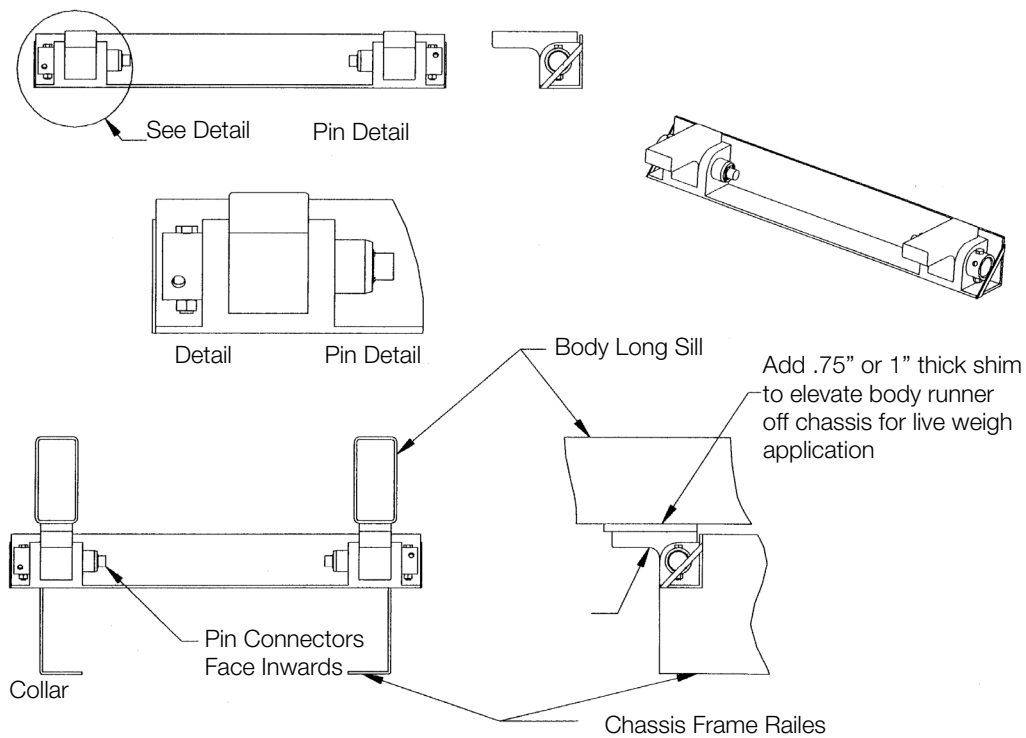

Figure 4-34. Hinge Riser
**NOTE HINGE RISER:** Add 0.75" or 1" thick shim plate to elevate body runners off chassis if the installation involves frame mount load cells with hinge pins for "live weigh" system kits, as shown in Figure 4-34.